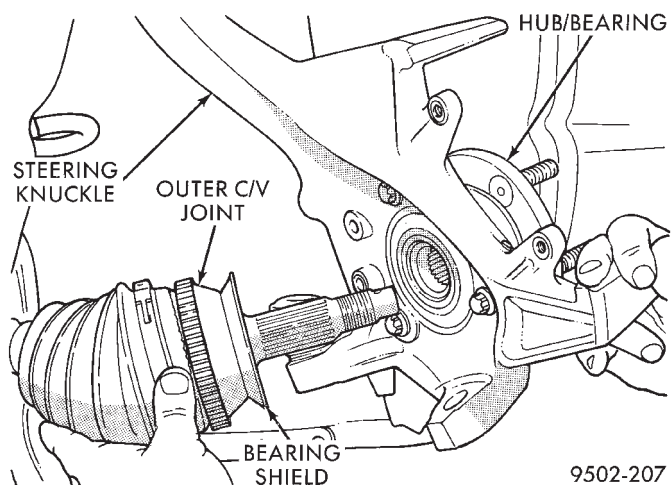

Fig. 69 Separating Steering Knuckle From Outer C/V Joint
(15) Separate the steering knuckle from the outer C/V joint. Separate steering knuckle from outer C/V joint, by supporting the driveshaft while pulling steering knuckle away from the outer C/V joint (Fig. 69).